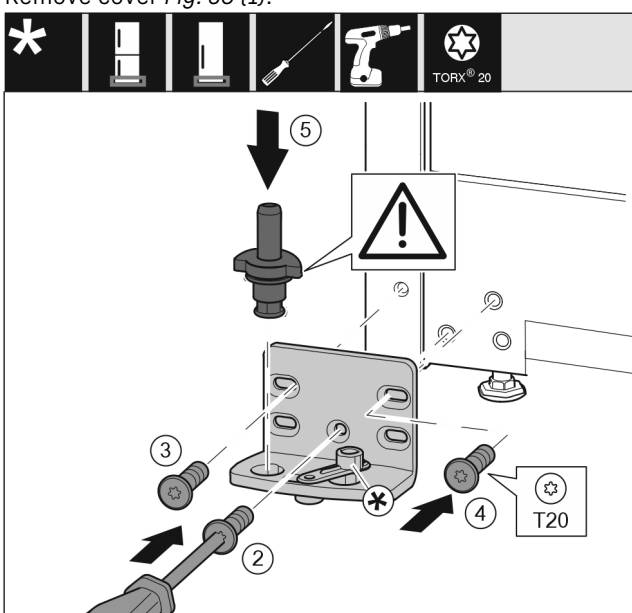

Fig. 37
- Place the swap bearing block on the other side and use a screwdriver to screw it on. Start with the screw Fig. 37 (2) at the bottom in the middle.
- Tighten screw Fig. 37 (3) and screw Fig. 37 (4).
- Insert the bearing bolt Fig. 37 (5) completely. Ensure that the latching cam is pointing towards the rear.
- Place the swap bearing block on the other side and use a screwdriver to screw it on. Start with the screw (2) at the bottom in the middle.*
- Tighten screw (3) and screw (4).*
- Turn the closing damper connection (5) by 180°. Use screwdriver to screw it onto the other side of the swap bearing block.*
- Insert the bearing bolt (6) completely. Ensure that the latching cam is pointing towards the rear.*